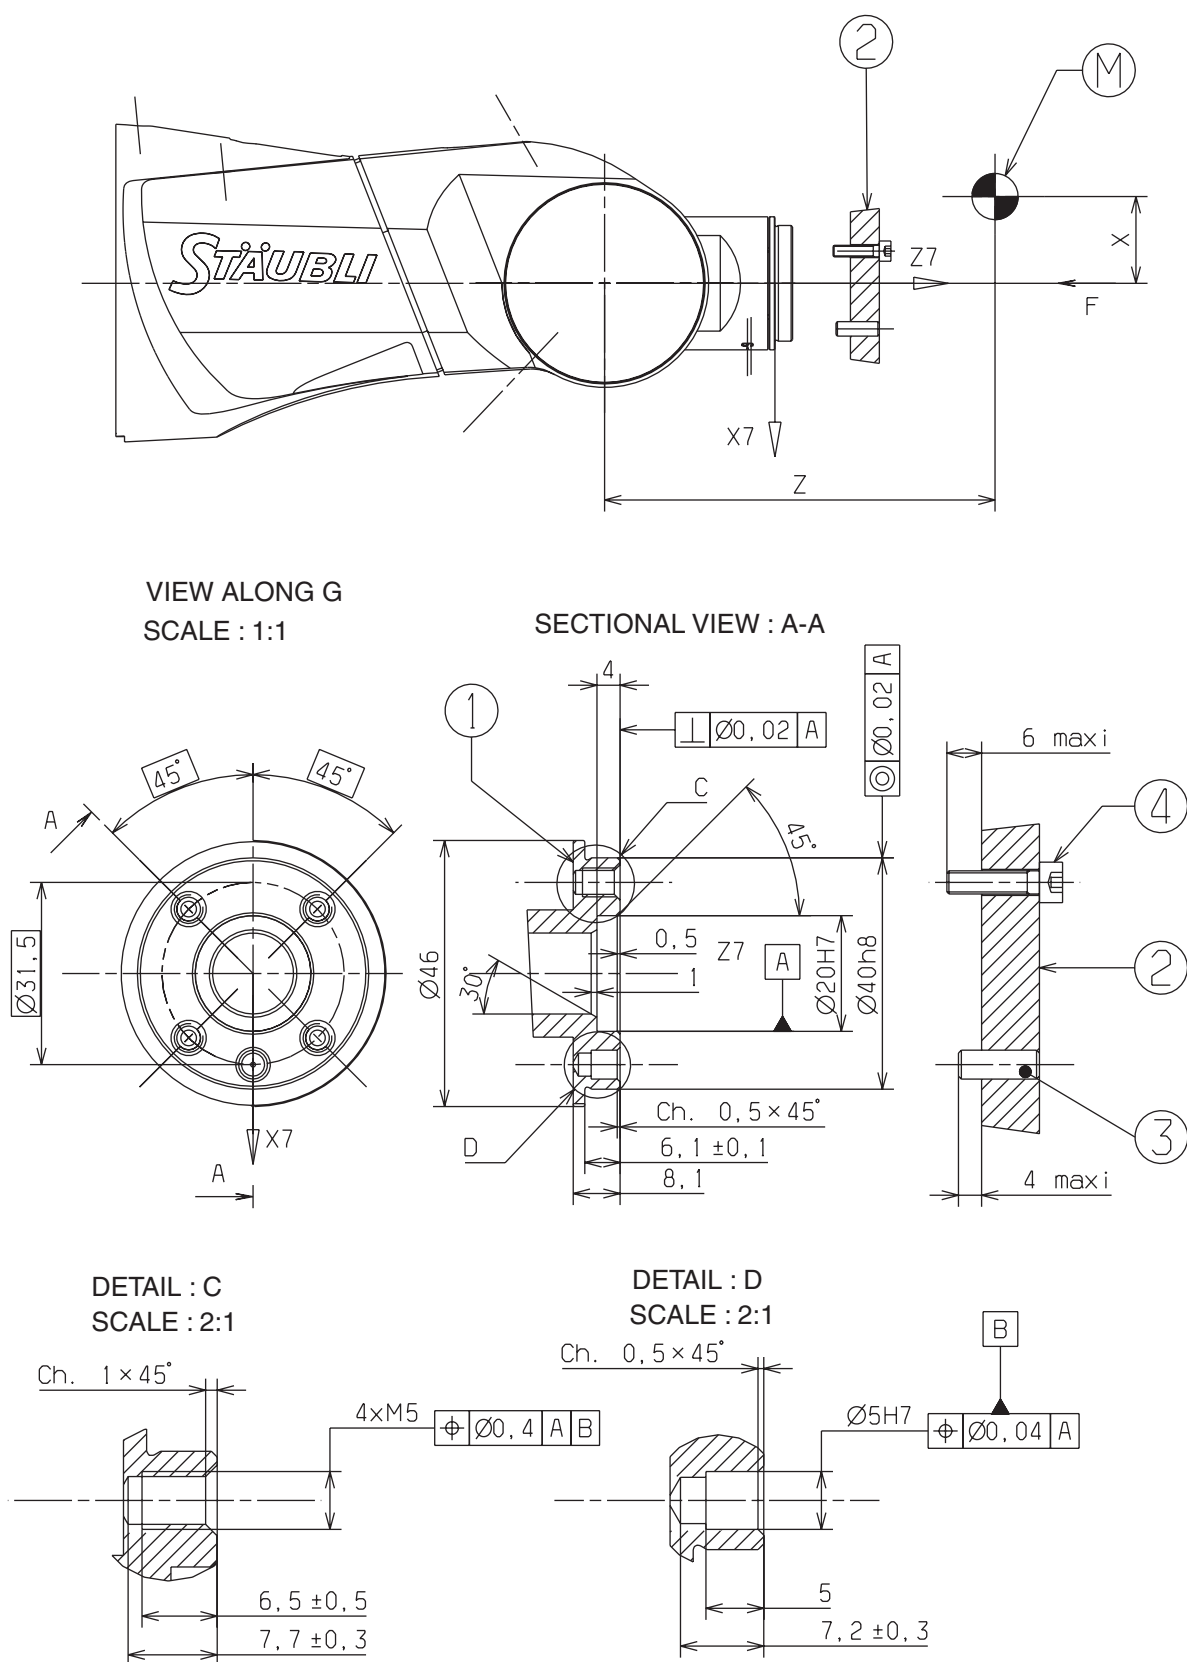

Figure 2.6
See **figure 2.6**.
Length of end-effector attaching screws is limited to avoid all interference with the wrist (figure 2.6).
2.6.1. LOAD CAPACITY (figure 2.6,2.7)